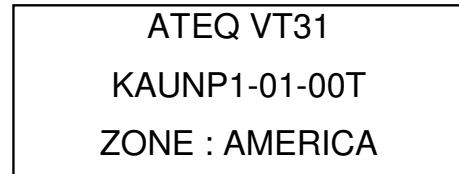

Fig. 2
- The software version and work zone as Fig. 2.